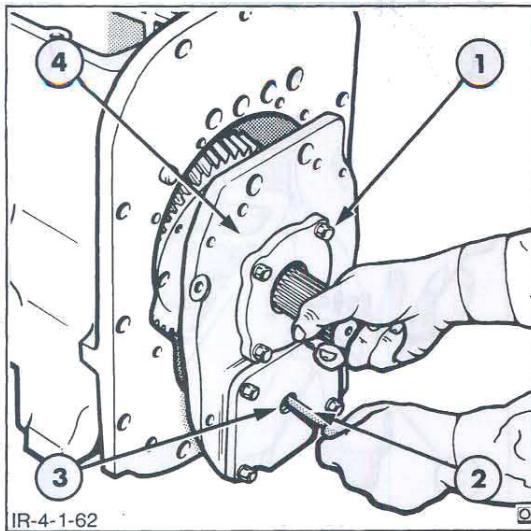

Figure 62
9. Insert a suitable rod through the countershaft bearing cap plug hole into the countershaft, Figure 62. Lift the countershaft while positioning the rear cover plate onto the transmission case, Figure 62.